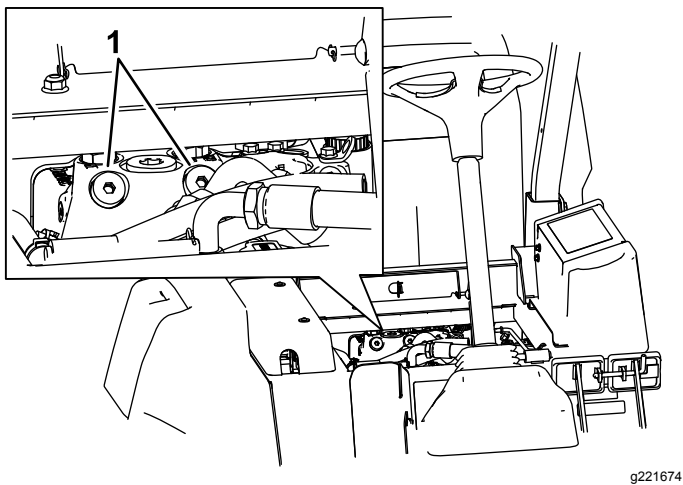

Figure 74
1. Raise the seat and locate the bypass valves, which are located below the front of the fuel tank (Figure 74).